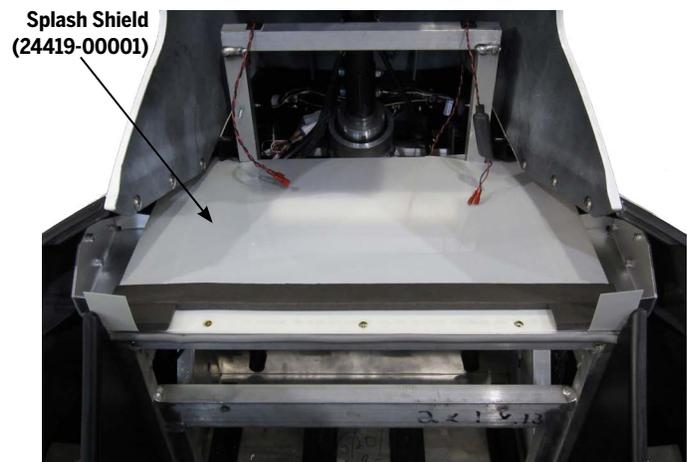

Figure 21: Splash Shield
6. Remove the Splash Shield (**Figure 21**).
2. Install the Splash Shield (**Figure 21**).